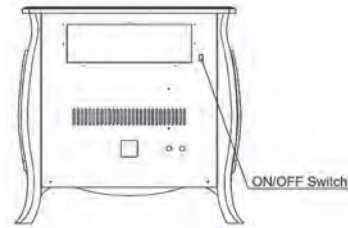

Figure 12 - On/Off Switch
Note: To operate your heater the ON/OFF switch on back of heater must be in the ON position. The RED light on the front of heater indicates there is electrical power to your heater when the ON/OFF switch is in the ON position. The GREEN light on the front of heater indicates the pilot light is ON. (See Figure 12)
2. Set Switch on OFF position or unplug the electric power to the heater. (See Figure 12)